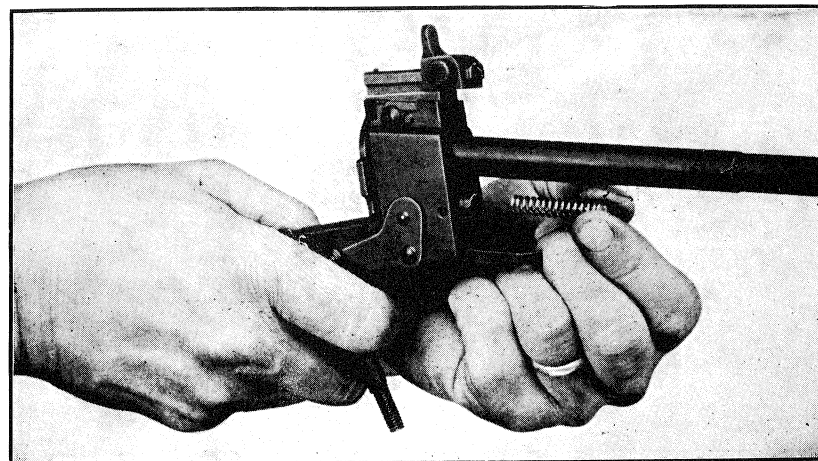

Fig.120
Remove the lock spring and the spring plunger (fig. 120).
- Replace the lock spring and lock spring plunger in the lock (fig. 120).